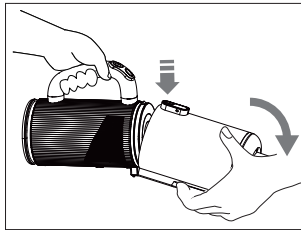

Fig. 24 – Opening the dust container
- ▶ Press the release button on the dust container and fold it down (see Fig. 24).